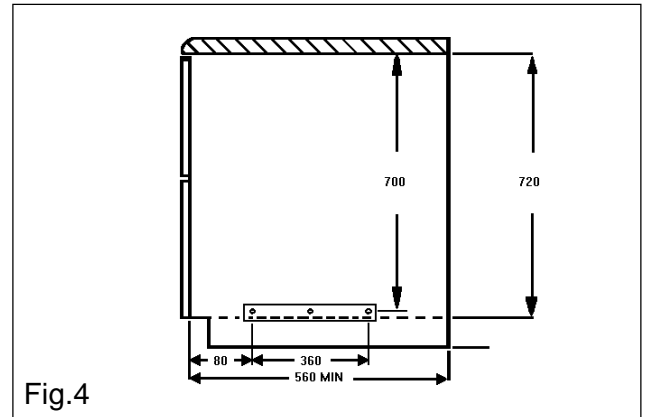
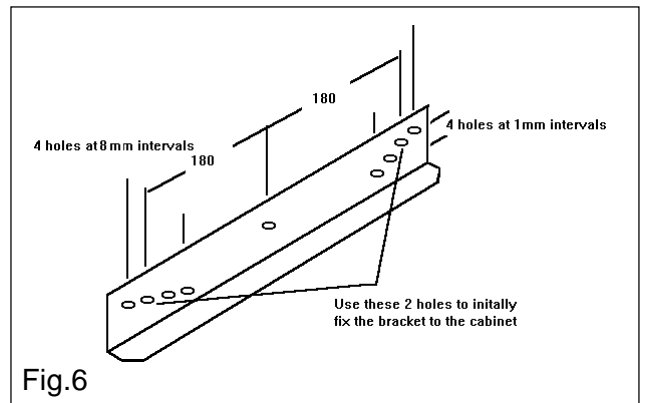

Fig.4
Fig.6
- Make sure the cabinet is the correct size for the appliance to be fitted (Ref. Fig. 4).
- Drill two pilot screw holes into the sides of the adjacent cabinets, in the positions indicated by Fig. 4.
- Fit the appliance mounting brackets using the two holes indicated in Fig. 6 to the adjacent cabinets ( Ref. Fig.4 & 7 )